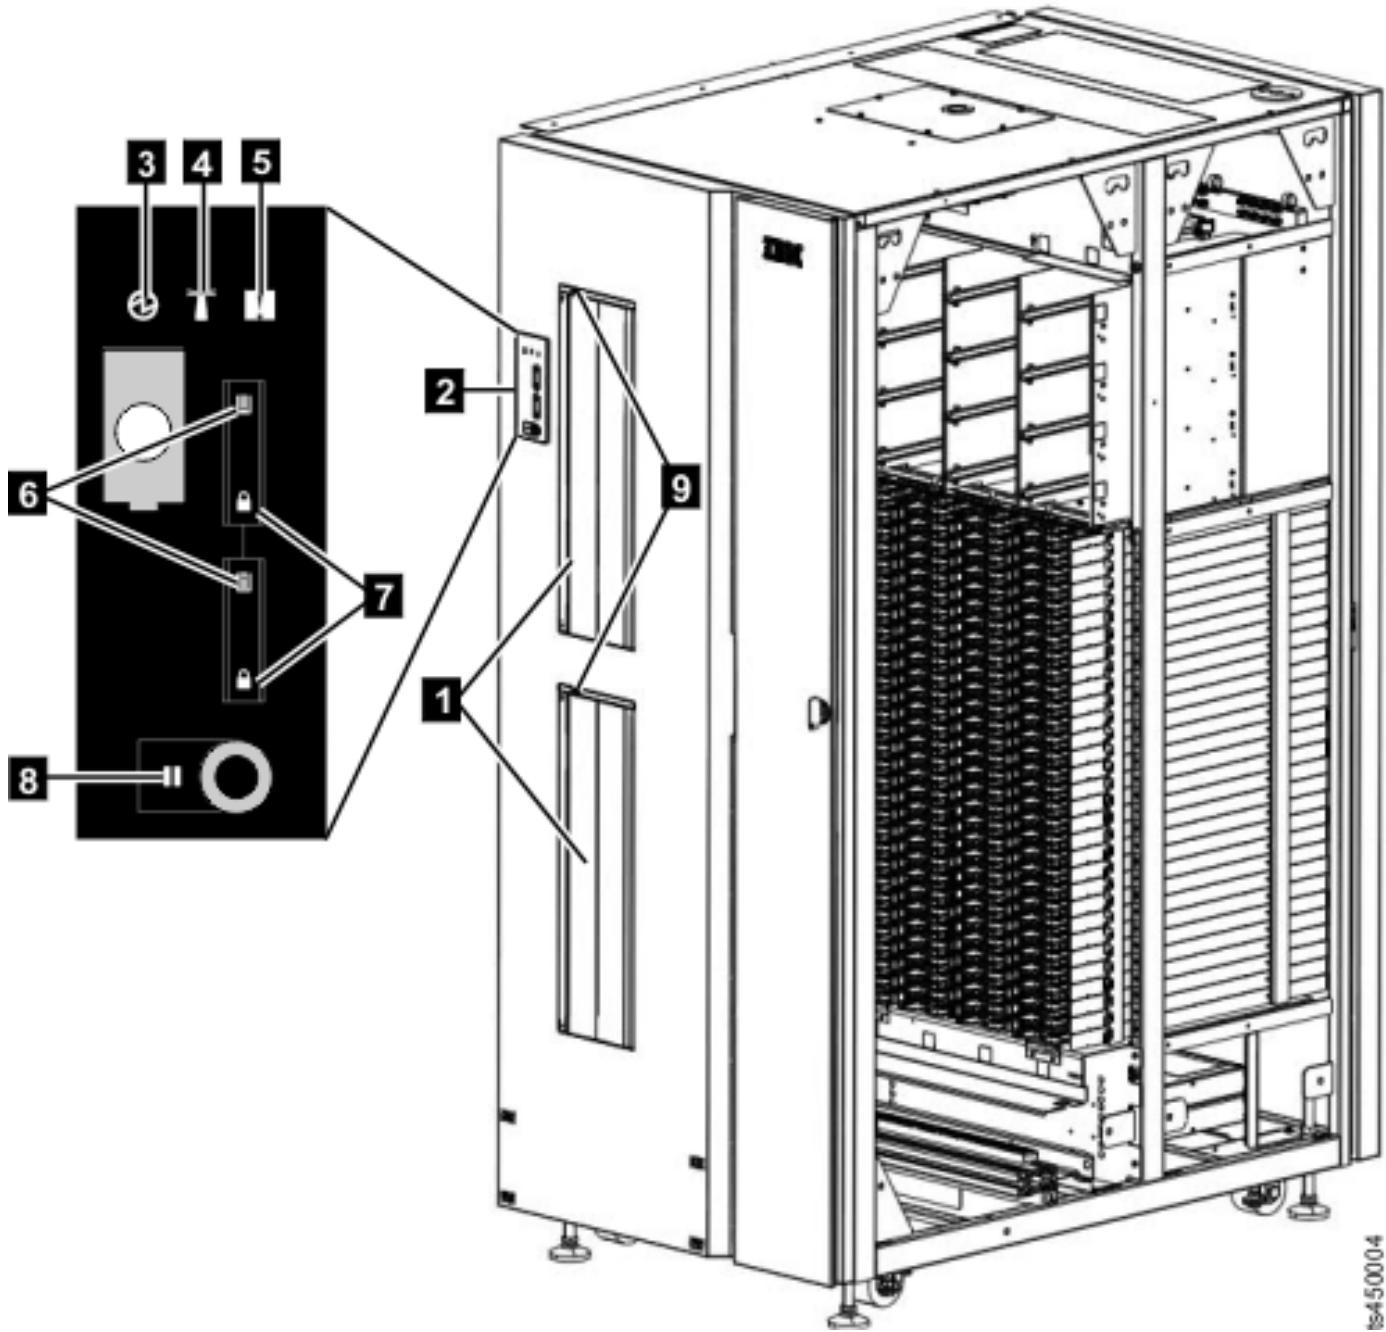

Figure 7. Location of I/O stations and display panel on an Lx5 frame
You can remotely use the I/O station action menu, available from the **System** page of the TS4500 management GUI, to open and close the I/O station doors. At the library, you can press the eject button (9 in Figure 7 on page 14) to open and close the doors. When the doors are open, it is possible to manually remove and replace the cartridge magazine to insert or remove cartridges. When the doors are closed, the cartridge accessor can access the cartridges. The lock status LED next to the eject button (also 7 in Figure 7 on page 14) indicates that the I/O station is locked because the accessor could be inserting or removing cartridges. Do not attempt to open the station when the lock status indicator is illuminated.
- Use the eject button (9 in Figure 7 on page 14) or the management GUI to open and close the I/O station doors. Do not attempt to open the doors manually.
Figure 7 on page 14 shows the location of the I/O stations and display panel. Table 5 on page 14 identifies each icon.